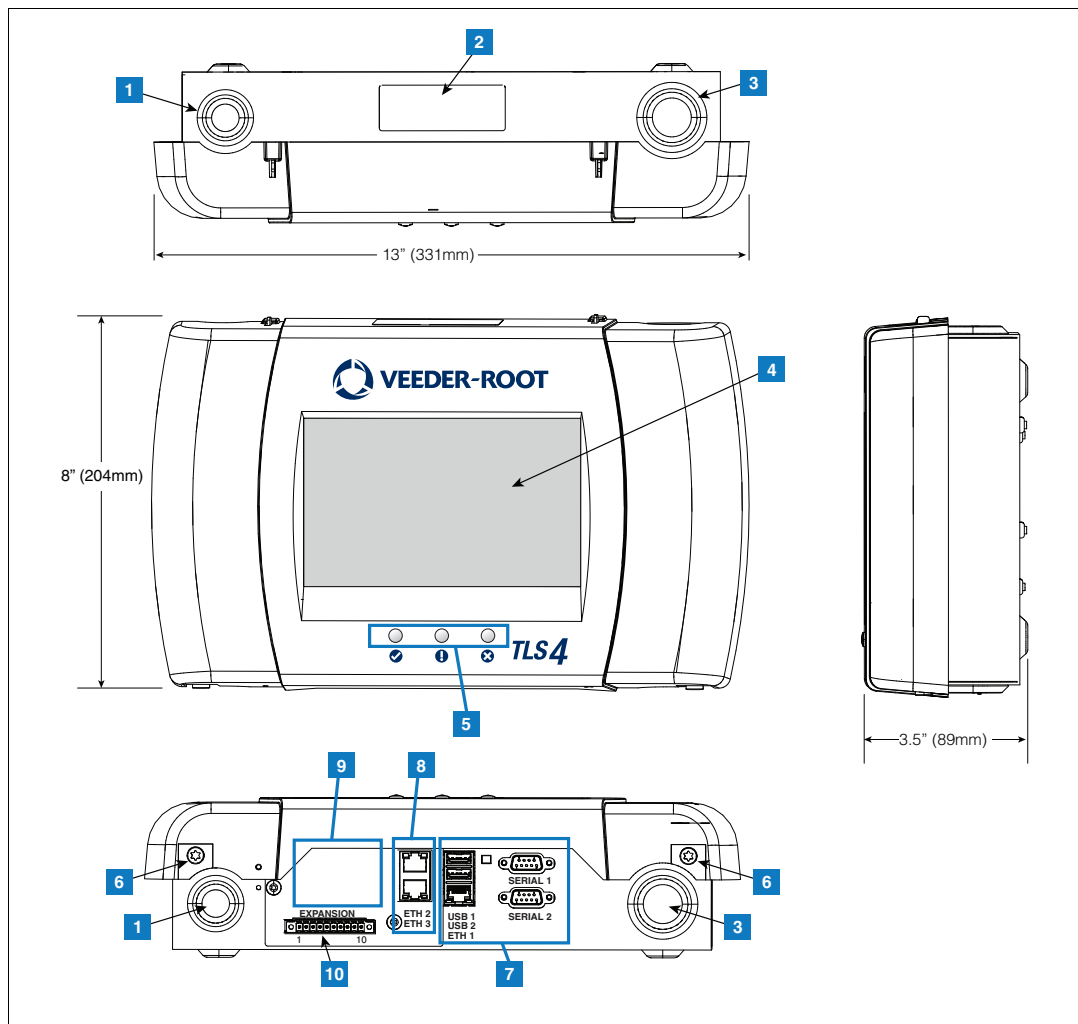
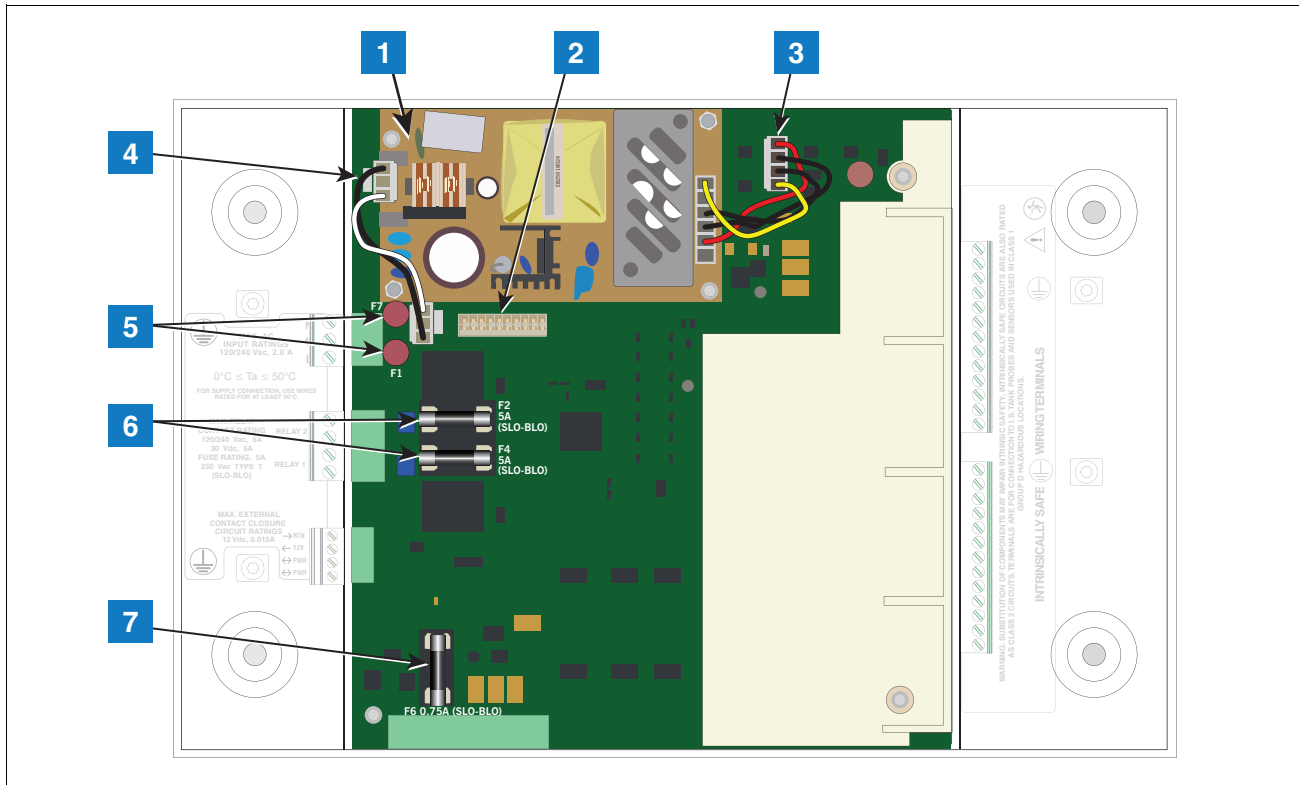

Figure 1. TLS4/8601 Series Console - Dimensions
Figure 4. Component Locations USIOM Board
Figure 1 through Figure 4 show assembly and component locations referenced in this manual.
LEGEND FOR NUMBERED BOXES IN Figure 1
LEGEND FOR NUMBERED BOXES IN Figure 4
1. Remove the two T15 Torx shoulder screws under the front cover of the console (Item 6 in Figure 1). Tilt the bottom of the cover out as you lift it off of the two hooks in the top of the console's housing.